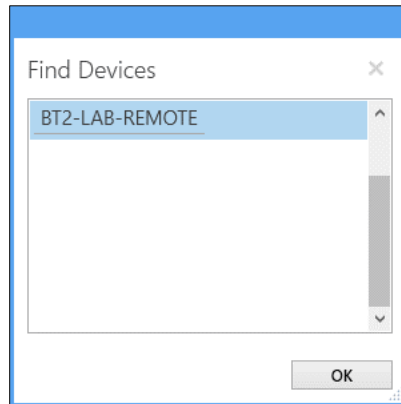

Figure 18: Find Devices Window
- c) To connect the Remote Control NXT, ensure the remote control is active then click the **Search for devices** button. This will cause the **Find Devices** window to pop-up (Figure 18). Select the Remote Control NXT and click the **OK** button.